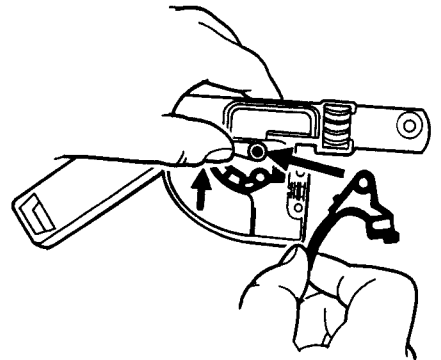

FIG 33
3. If fitted with switch trigger torsion spring, place torsion spring over post and hold back with thumb (Fig. 33). Fit switch trigger fully over post and release spring so it catches throttle trigger.